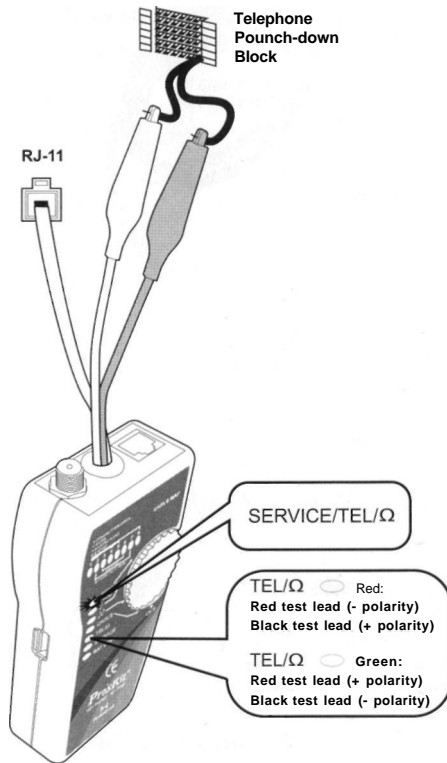

Figure 9 Validating Telephone Service and Po
To validate telephone service and polarity, do the following as Figure 9 shown below.
1. Connect the Toner to the circuit as shown in Figure 9. Connect the test leads to the telephone punch-down blocks, RJ11, and RJ45 jacks.